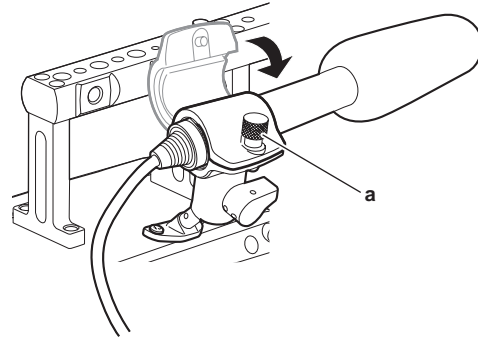

Fig. 2
- 2 Attach the microphone and tighten the clamping screw (a). (Fig. 2)